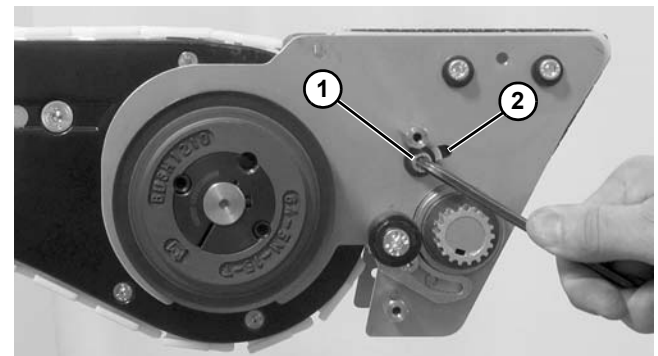

Figure 158
4. Loosen idler socket head screw (**Figure 158, item 1**) on both sides of the conveyor.
5. Slide idler assembly within slot (**Figure 158, item 2**) to remove tension on belt.